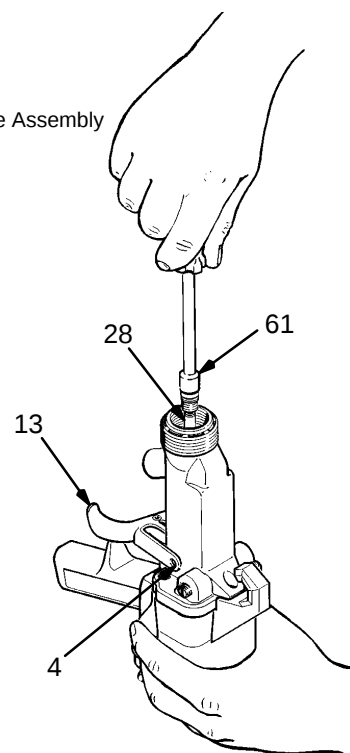

Fig 23
2. Loosen the trigger screws (4) far enough to remove the trigger (13).
3. Use the 9 mm hex nut driver (61) to remove the packing cartridge and needle assembly (28). See Fig 23.